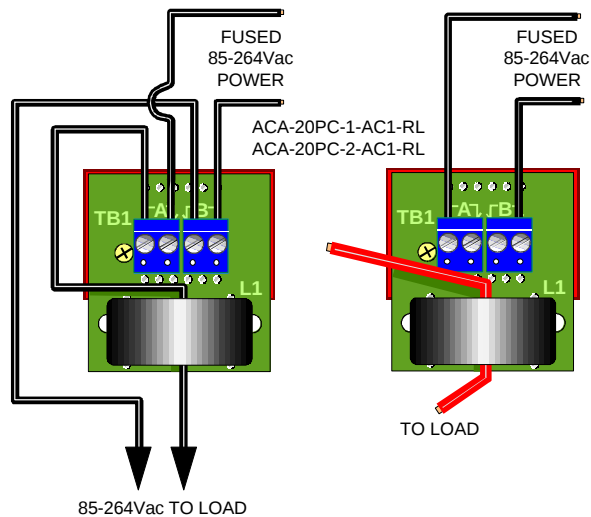

Figure 3. 2A and 20A, 85-264V AC-Powered Models With Auxilliary Load Connections
① The ACA-20PC-1-AC1-RL and ACA-20PC-2-AC1-RL have 4-position on-board terminal blocks. All other models have 2-position terminal blocks.
② Specified full-scale currents are those passing through the built-in CT's primary (load) circuit, over the frequency of 45-450Hz. The Overcurrent Rating is a continuous rating that applies to the measured ac load current. It does not apply to any circuitry external to the meter. Accuracy is guaranteed to the rated current.
③ For the ACA-20PC-2-AC1-RL, if the load is connected to the meter's on-board 4-position terminal block, the 20A full scale range requires 12AWG solid copper wire on all connections. If 14AWG solid copper wire is used, the current should be limited to 15A. See Figure 3.
④ All specified maximum power supply currents are steady-state values. AC-powered models can draw higher surges at initial turn-on.
⑤ Maximum reverse polarity protection on "DC1" models is −40Vdc, and −50Vdc on "DC2" models. "DC3" models provide no reverse polarity protection.